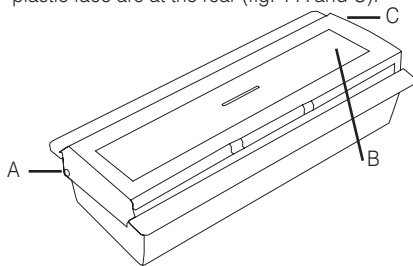

Figure 1: Doorbell-pushbutton
- Place the doorbell pushbutton in such a way on the work surface that the two rotation axes of the transparent plastic face are at the rear (fig. 1 A and C).
- b) Using a pointed object (e.g. pen) carefully press now the small pin on the left side (fig. 1 A).
- c) Now you should be able to push up and remove the transparent plastic face (fig. 1 A).
- d) You can now open the small screw (fig. 1 B) using a small Phillips screwdriver and remove the front of the doorbell pushbutton behind which there is the PCB with the battery.
- b) Before assembling ensure that the small screw (fig. 1 B) can grip at the right spot. If required turn one part of the housing by 180°. Please make sure that the rubber gasket sits correctly within the housing.